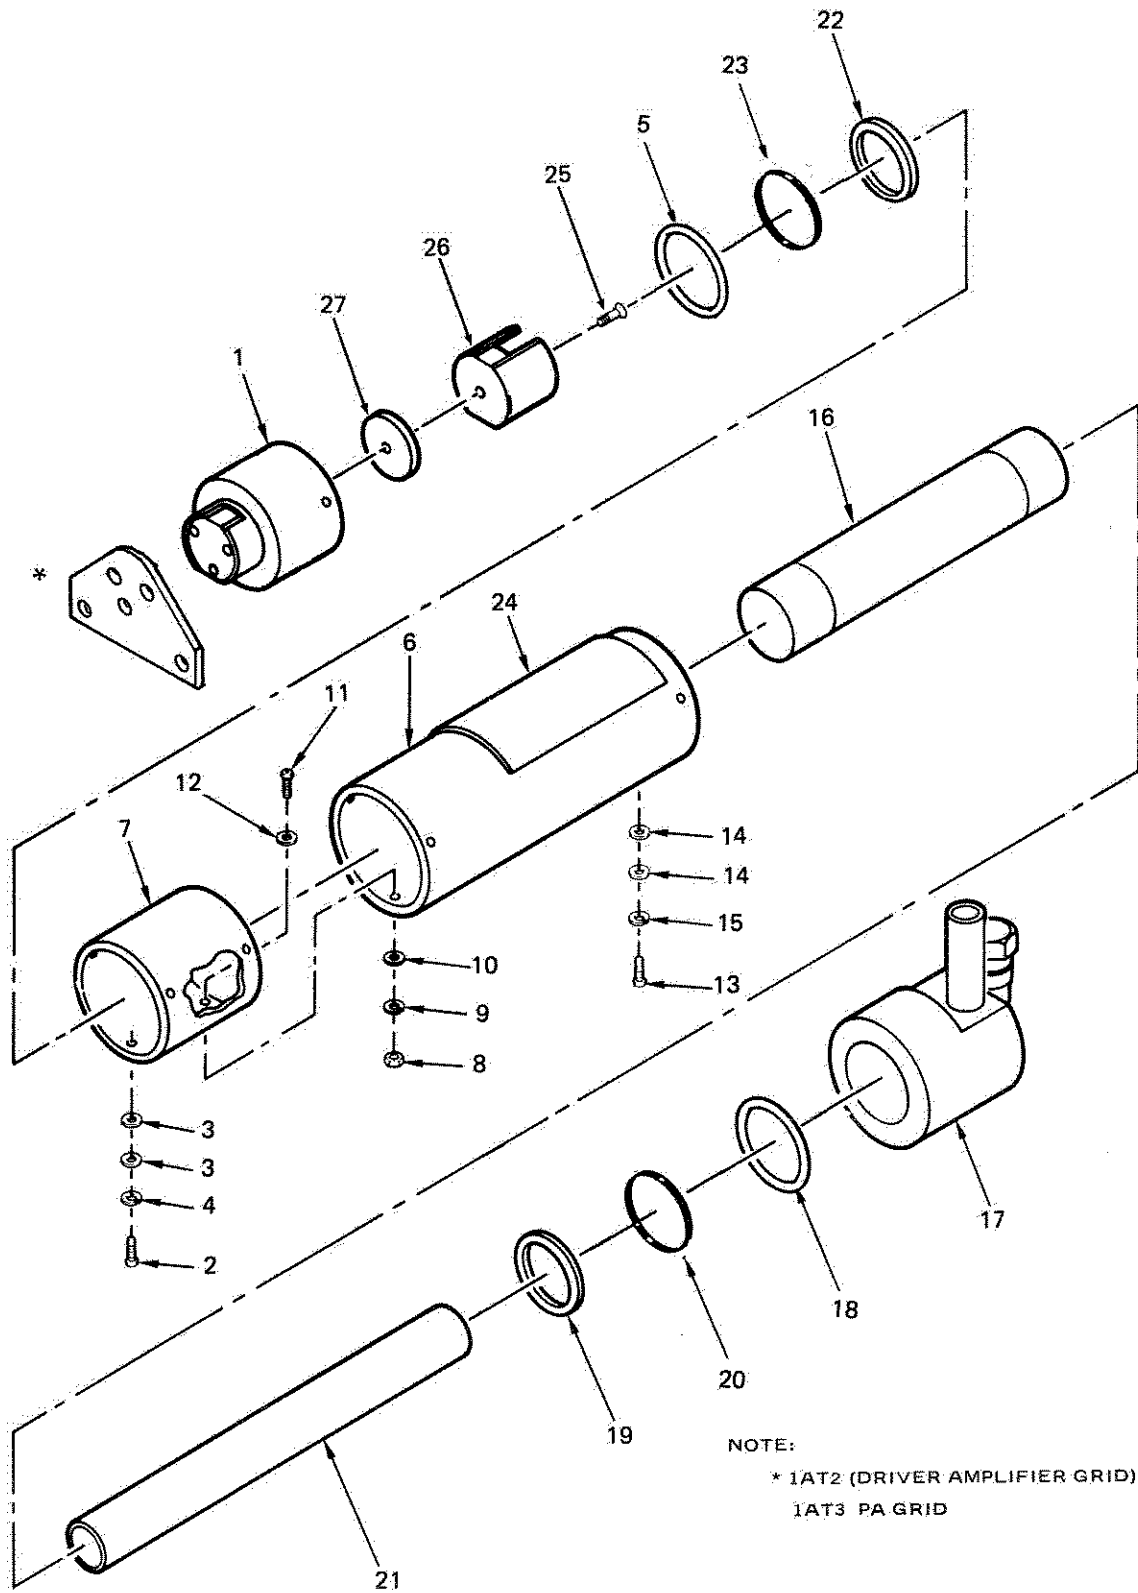

Figure 6-125. 1AT2, 1AT3 Disassembly/Reassembly
1. To disassemble 1AT2 or 1AT3, refer to Figure 6-125 and perform the following.
a. Top contact (1) removal.
2. To reassemble 1AT2 or 1AT3, refer to Figure 6-125 and perform the following.
a. Bottom contact (17) installation.